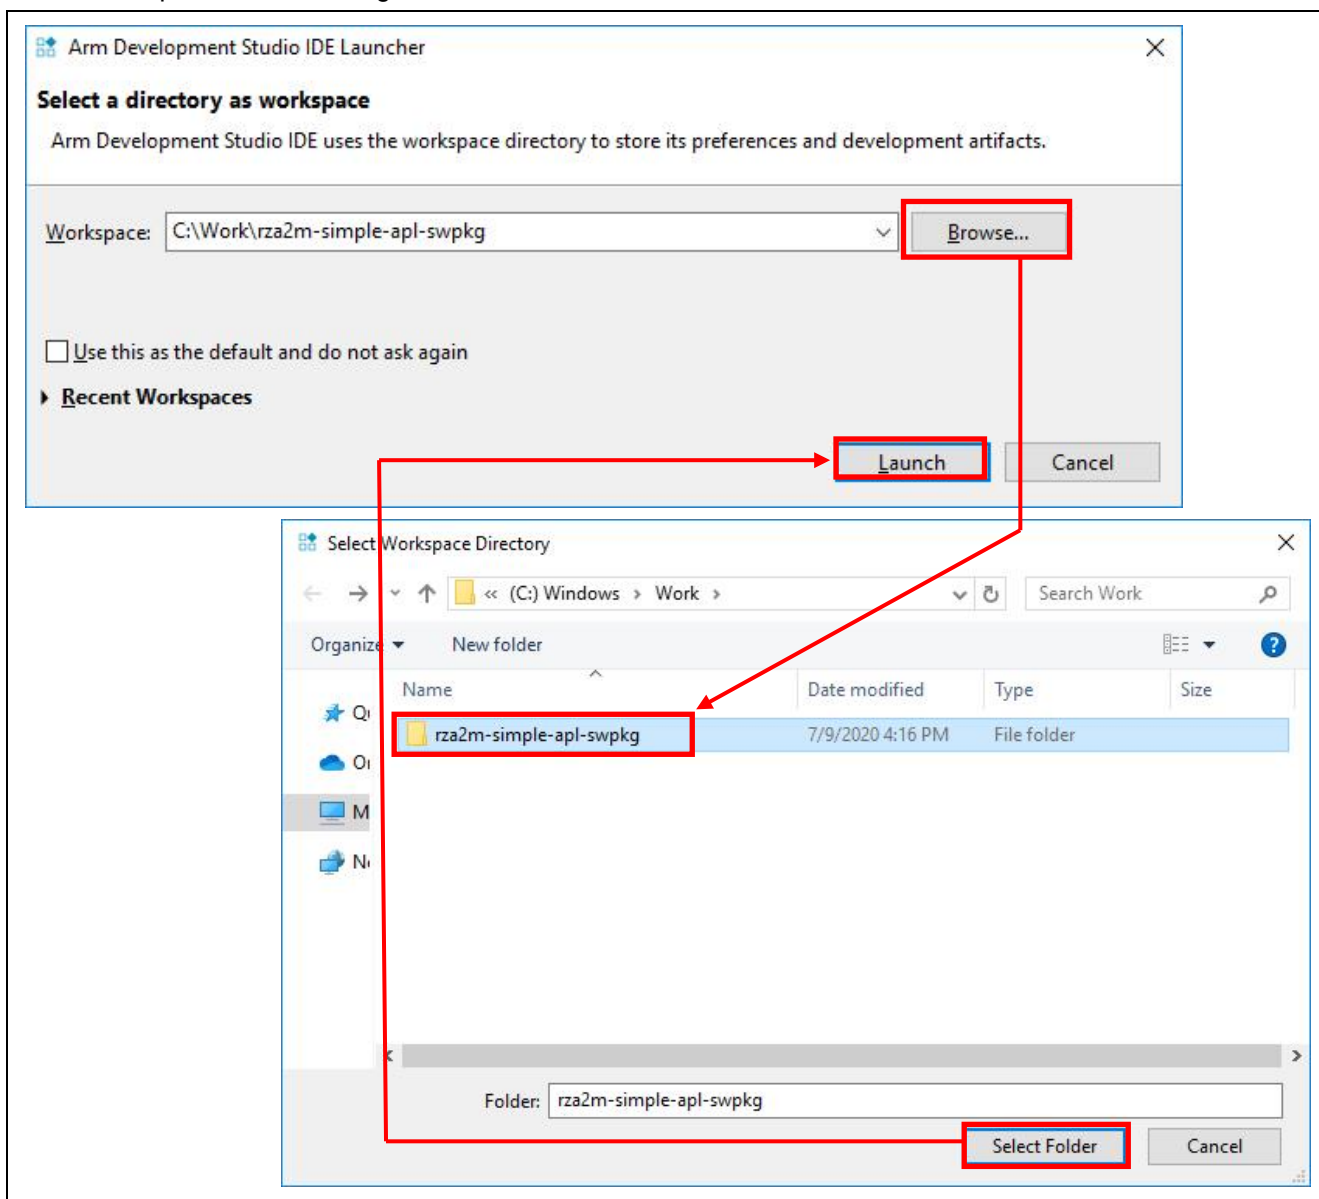

Figure 3-1 Arm DS launching
- Set the top directory which has each sample project sub-directory for the workspace directory. These 2 steps are shown in Figure 3-1.